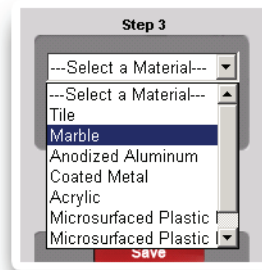

Figure 4. Material selection.
STEP 3: SELECT MATERIAL – See Figures 4 and 4a